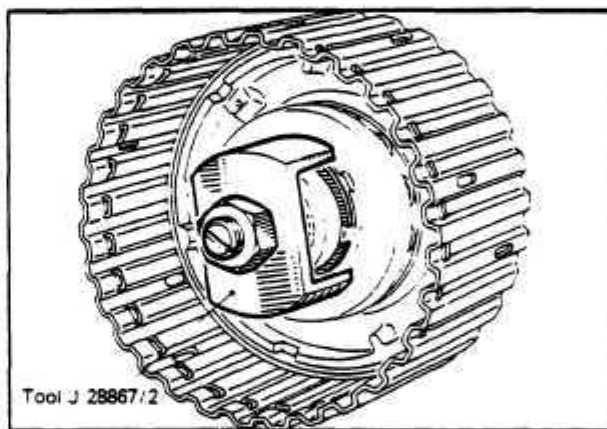

Fig. 56 C-1 PISTON REMOVAL
4. Compress the piston return springs using the special tool J 28867/2 (part of the A/T Tool Kit) and remove the lock ring securing the spring retaining plate. *Fig. 56*
5. Compress the retaining plate using the special tool and install the lock ring. Make sure that the three (3) lugs on the retaining plate are holding the lock ring in position when the tool is removed. Fig. 56